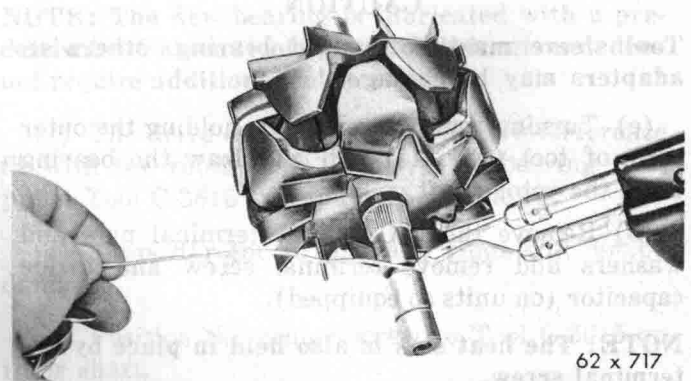

Fig. 52—Soldering Negative Lead to Slip Ring
(7) Resolder rotor coil negative lead into the slot of the negative slip ring (Fig. 52).